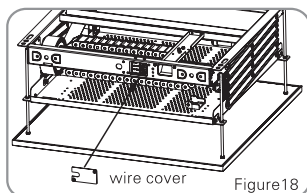
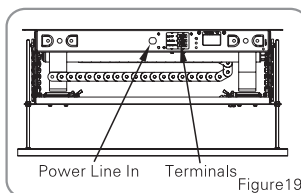

Figure18
Figure19
*External IR/RF remote control(Optional, External Slot in the back of Lift)(Figure 18 –20)
12. Before contacting the power cable of projector lift, please take out the wire cover in the back of lift (Figure 18). Then choose the control option and connect the controlling wires to terminals (Figure 19–20). For humanization, link the power after fixing the controller of cables on a place for easy using.